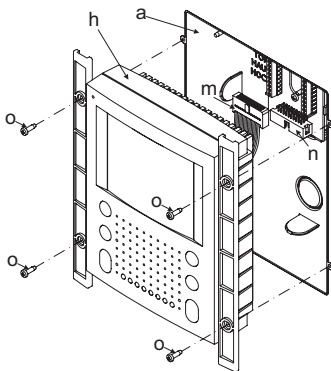

Fig.6
- *As shown on figure 6, move the videophone "h" close to the back box, connect the plug "m" on the ribbon cable from the videophone to the plug "n" on the pcb connection board then fix the videophone "h" to the back box "a" using the four screws "o";*